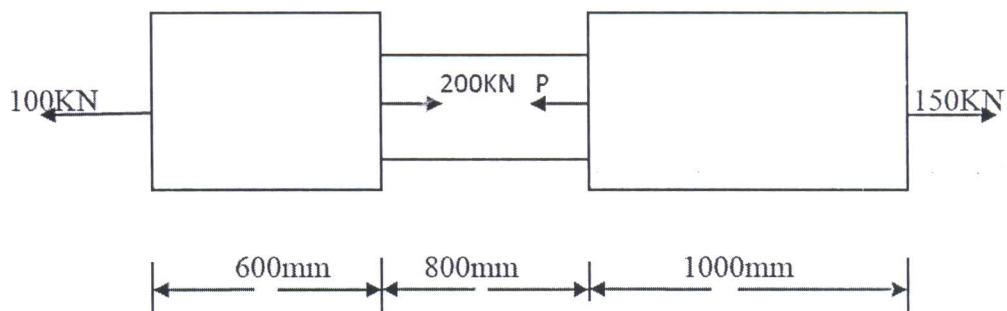

Fig.1
- Determine the force 'P' necessary for the equilibrium of a steel bar shown in fig.1. [8]
- b) fig.1. The diameter of the first, middle and last segments of the bar are 30 mm, 25 mm and 30 mm respectively. Also find the elongation of the bar. Take $E=200\text{Gpa}$.